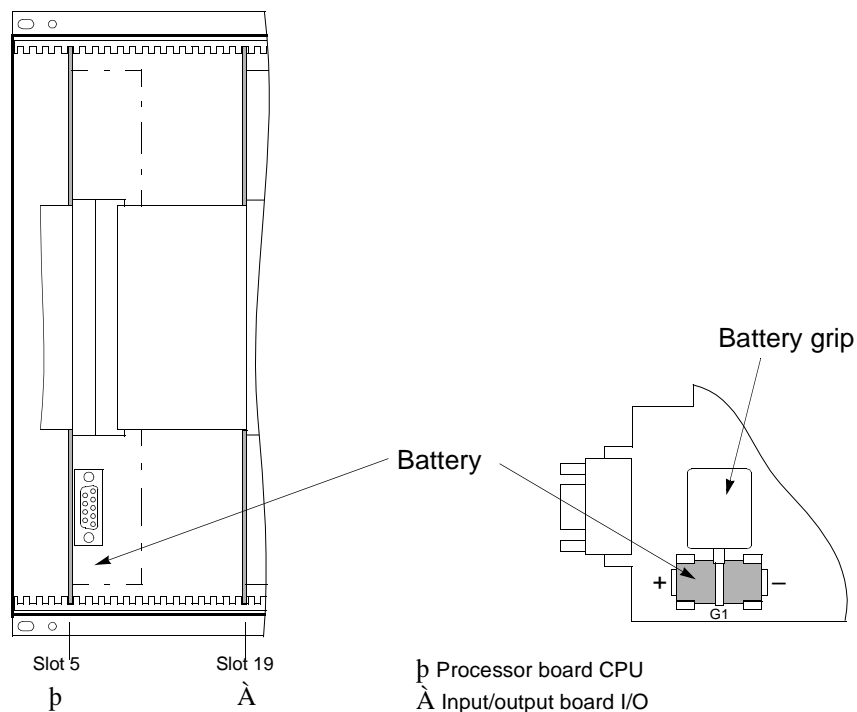

Figure 9-1 Front view without front panel — position of buffer battery (simplified and reduced)
- ☐ Disconnect the ribbon-cable that links the front panel and the CPU board (❶), at the side of the front panel. To disconnect the cable, push up on the top latch of the plug connector and push down on the bottom latch of the plug connector. Carefully set aside the front panel.
- ☐ The battery is located on the bottom-front side of the CPU (b) board. See Figure 9-1.
- ☐ Remove the old battery from the snap-on connector using the plastic battery grip shown in Figure 9-1.
- ☐ Observing the polarity and firmly insert the new battery into the snap-on connector shown in Figure 9-1.